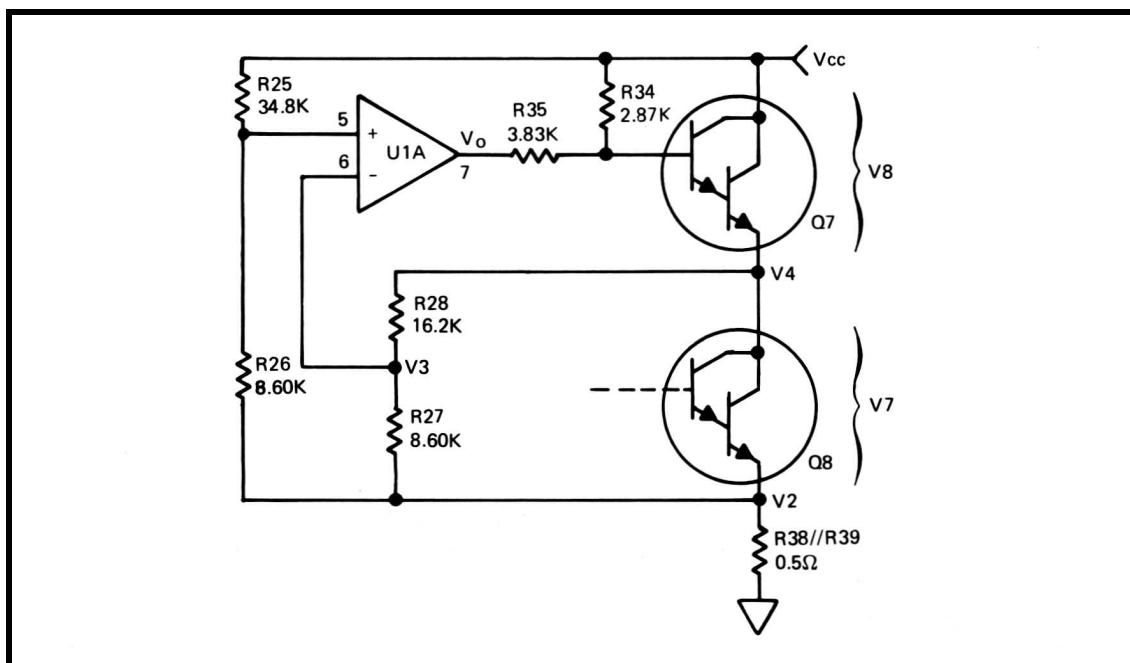

Figure 8-12. Heater Transistor Balance Circuit.
- 8-40. Because heater transistors Q7 and Q8 are not equally spaced from the crystal, it is necessary to offset the power dissipation between the two transistors. Figure 8-12 shows a simplified schematic of this circuit. Amplifier U1A references a voltage divider across Vcc (R25, R26) and a divider referenced to the mid-point between the heater transistors. From this U1A controls the base current of Q7 to insure the Voltage at the mid-point between the heater transistors is a constant percentage of Vcc ($V4 \approx 0.57 Vcc \pm 2\%$).